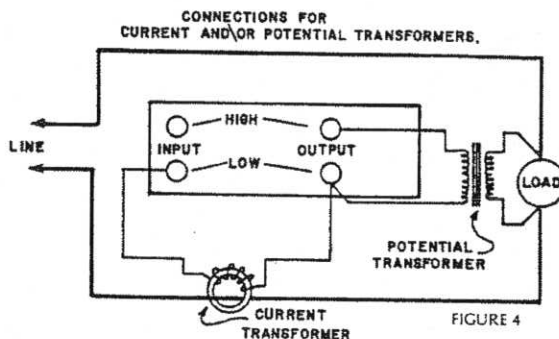

FIGURE 4
10.1.2 CURRENT AND POTENTIAL TRANSFORMERS As shown in Figure 4, the unit can be used with either current or potential transformers. When this is done the correction factor prescribed by the transformer ratio utilized must be applied to the instrument readings. NOTE: A current transformer is available with a split core to make interruption of the line unnecessary. For details contact our customer service department.